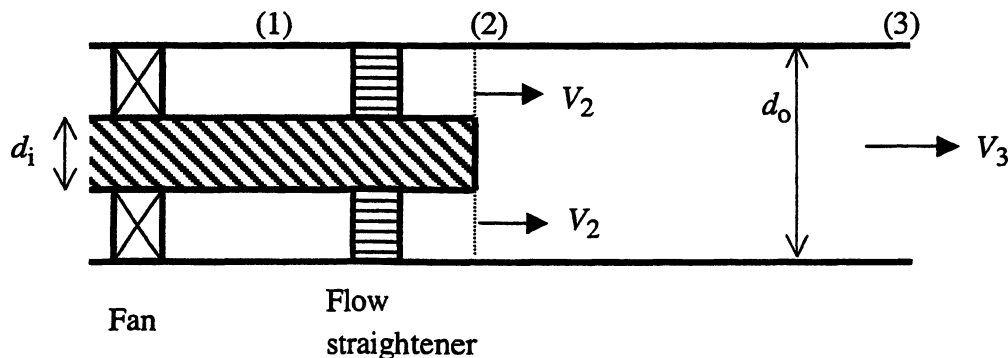

Fig. 4
4 An incompressible fluid of density ρ flows through a fan in an annular duct then through a flow straightener into a horizontal duct of diameter d_o as shown in Fig. 4. The central body of the fan and flow straightener has a diameter d_i . The velocity after the flow straightener is axial and uniform and is equal to V_2 . The pressure across station (2) is uniform and is equal to p_2 .
(b) If the effect of friction on the walls is assumed to be negligible, what is the pressure difference between the stations (2) and (3) in Fig. 4 in terms of V_2 , ρ , d_i and d_o ? [7]